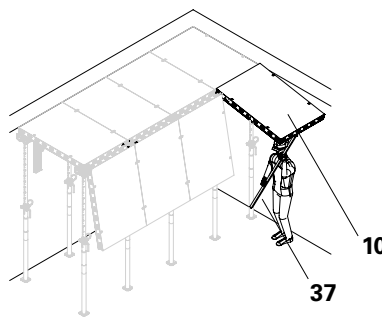

Fig. D2.10
2. Push the first DP panel (**10**) upwards using the DUO shuttering aid (**37**) and set it down on the shuttering aid. (Fig. D2.10)